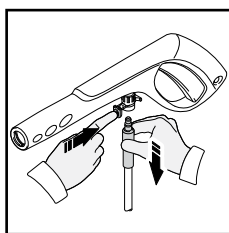
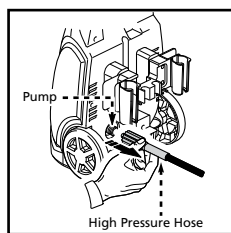

Fig. 23
Fig. 24
- Remove high pressure hose from spray gun (Fig. 23) and unscrew the other end of the high pressure hose from the power washer (Fig. 24).